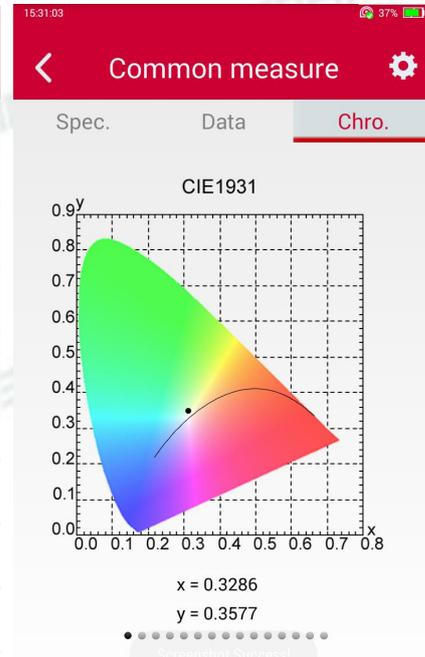

Fig 4.3 Data display interface Fig 4.4 Chromaticity diagram interface
- **Data** : Displays all parameter (as is shown in Figure 4.3), which can be viewed through a slide screen and the measured values are marked in red as they exceed the set criteria.